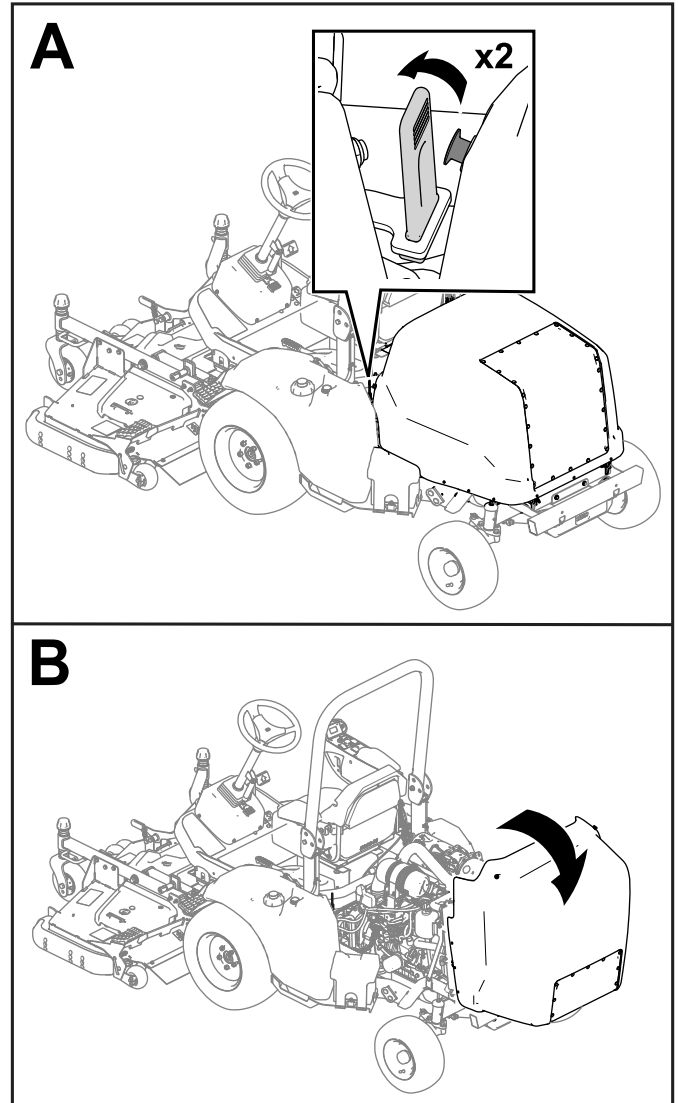

Figure 46
1. Release the straps from each side of the machine (Figure 46).
2. Raise the hood (Figure 46).